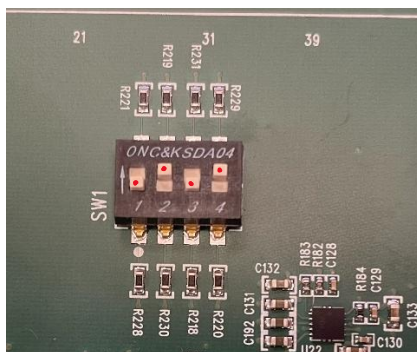

Figure 13: BOOT mode (SW1) set to SD.
- 4.3.2.2. Set BOOT mode to SD (0101) (Figure 13).